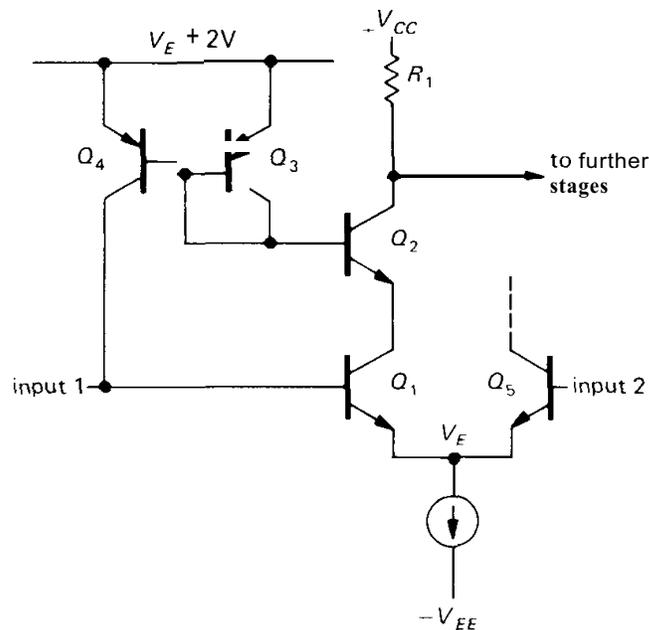

Figure 2.83. Base-current cancellation scheme, commonly used in high-quality operational amplifiers.
(8) Several commercially available precision op-amps (e.g., the venerable OP-07 and the recent LF1012) use the circuit in Figure 2.83 to cancel input bias current (only half of the symmetrical-input